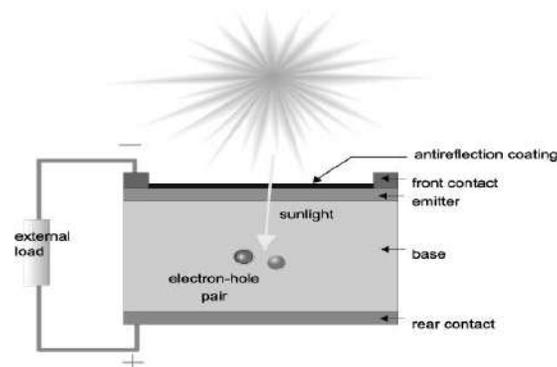
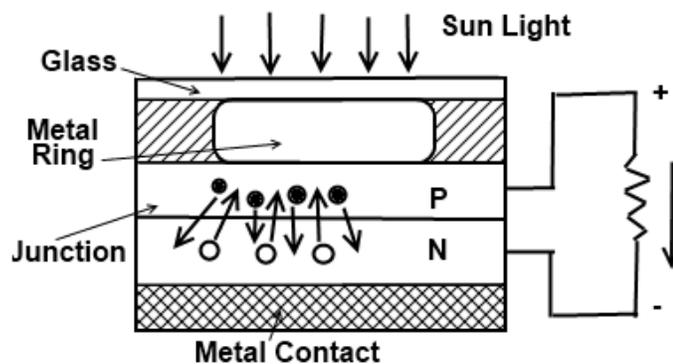

Fig 3.6 Solar Cell Structure
Fig 3.7 PN junction
A solar cell: A solar cell is a solid-state electrical device (p-n junction) that converts the energy of light directly into electricity (DC) using the photovoltaic effect. The process of conversion first requires a material which absorbs the solar energy (photon), and then raises an electron to a higher energy state, and then the flow of this high-energy electron to an external circuit. Silicon is one such material that uses such process. A solar cell structure is shown in figure 3.6 and a solar panel configuration in figure 3.7.